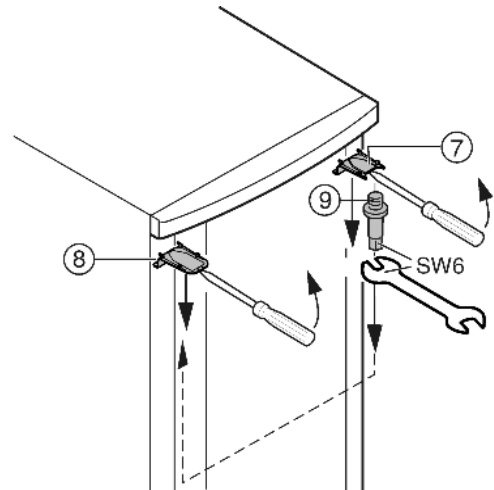

Fig. 7
- At the top, use a screwdriver to unclip cover *Fig. 7 (7)* and cover *Fig. 7 (8)* at the front, and remove by pulling out and down.
- Unscrew the bearing pin *Fig. 7 (9)* and screw it firmly into place on the opposite side (**with 4 Nm**).
- Refit the cover *Fig. 7 (7)* on the side of the bearing pin: insert at the back, snap in at the front.
- Fit the cover *Fig. 7 (8)* on the opposite side: insert at the back, snap in at the front.
- Hang the door on the bearing pin *Fig. 7 (9)* at the top.